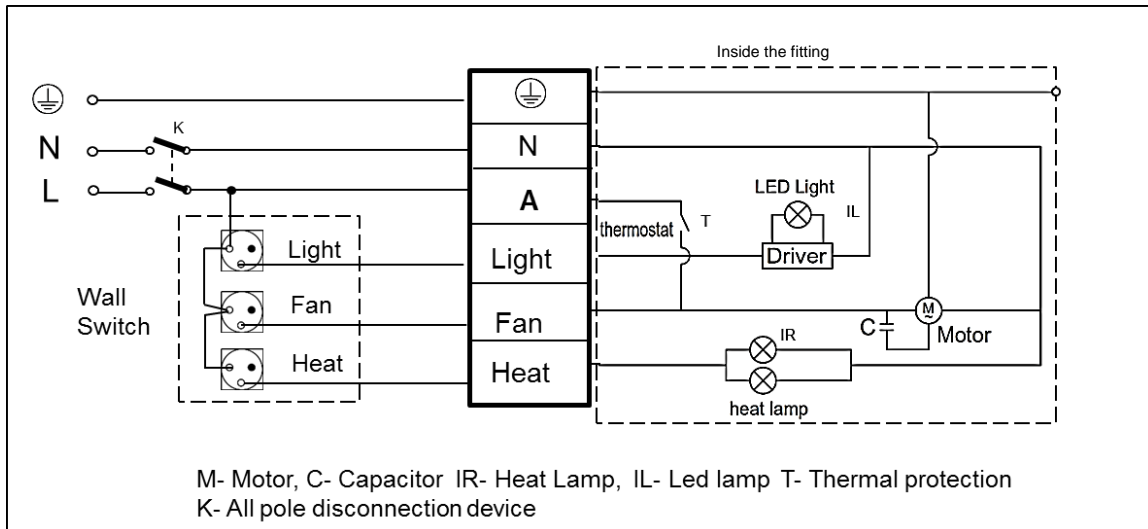

Figure 7.
- 3) Remove the terminal cover on the rear of the base and connect wires as per wiring diagram on Fig. 7 and wiring instructions. Replace the cover.
The wiring diagram is shown on Figure 7.